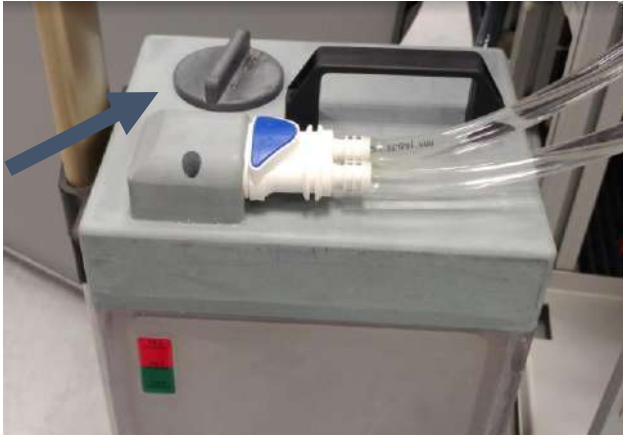

Figure 12-4
Step 6: Open the cover of the water tank. see Figure 12-4.